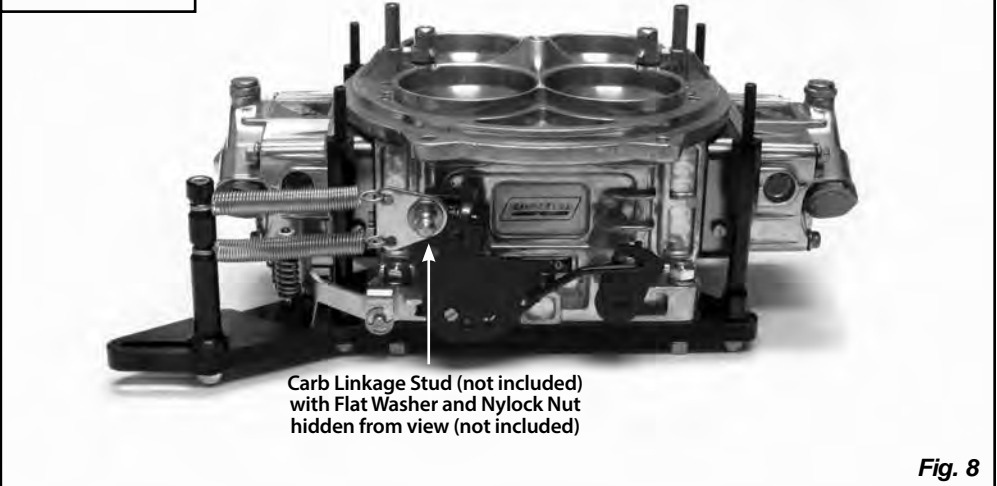

Fig. 8
- **4500 Series Carburetors:** Place the tab bushing onto your carb linkage stud (not included), with the larger diameter side towards the linkage rod. Insert the carb linkage stud and tab bushing into the spring tab. Install this assembly onto the carburetor throttle arm, and secure with the provided 1/4" flat washer and your original nylock nut (not included). Make sure that the spring tab will rotate freely on the tab bushing. **Fig. 8**